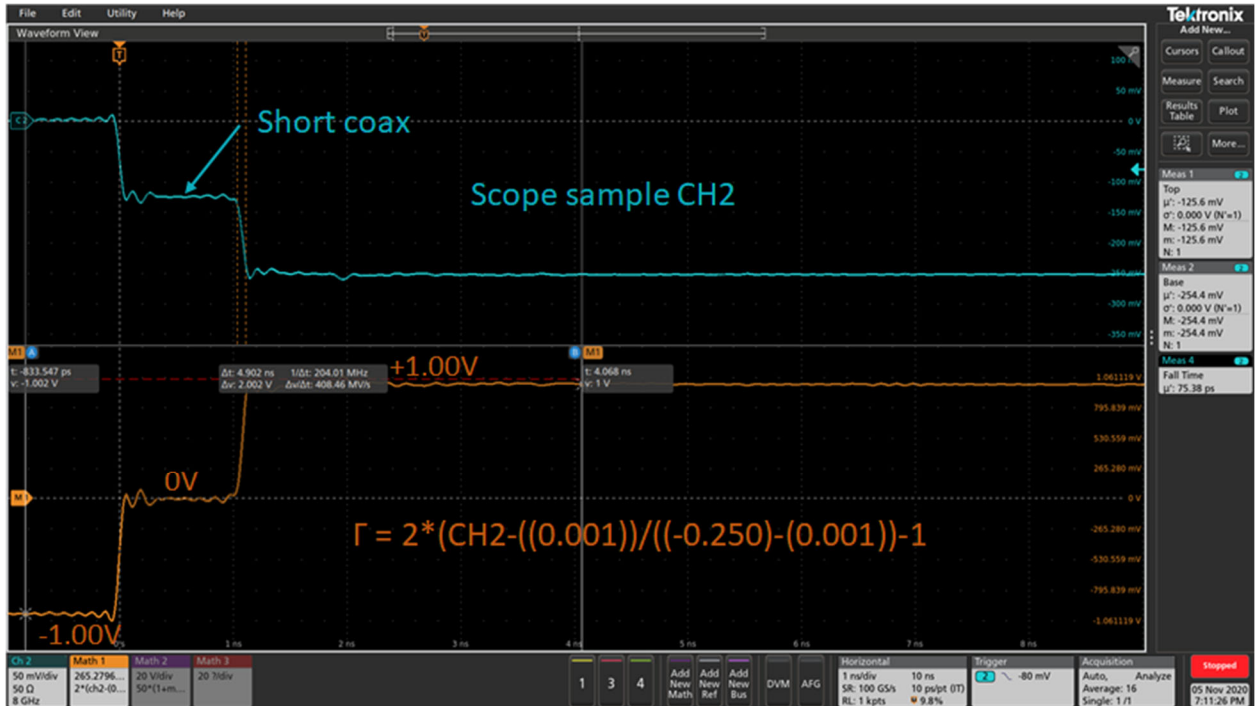

Fig. 7 - TDR Setup - Short, Open, Load.
In order to set up the TDR on the oscilloscope, we first need to scale the actual input pulse to a +/- 1V signal, which is also defined as the reflection coefficient (Γ). The polarity of the actual input pulse is arbitrary. In other words, Γ needs to meet the specific criteria for open, 50 Ω match, short to ensure it is set appropriately before we use Γ to calculate our impedance. This is demonstrated by referencing EQ(17) and shown in Figure 7. Further, discussion on this topic is demonstrated in Picotest's Master the Fundamentals of Power Integrity and Power Supply Testing, Lesson 12: TDR Measurements [14]. With reference to EQ(17), ideally, the 0.0mV would be zero and the 250mV would be 250.00mV. However, that is not always the case, which is how we can add some calibration on the received pulse from the J2154A by appropriately scaling Γ before calculating impedance. This calibration can be observed in the equation depicted in Figure 7.
As shown in Section 3, the reflection coefficient Gamma (Γ) was calculated by EQ(17) and also shown in Figure 7.